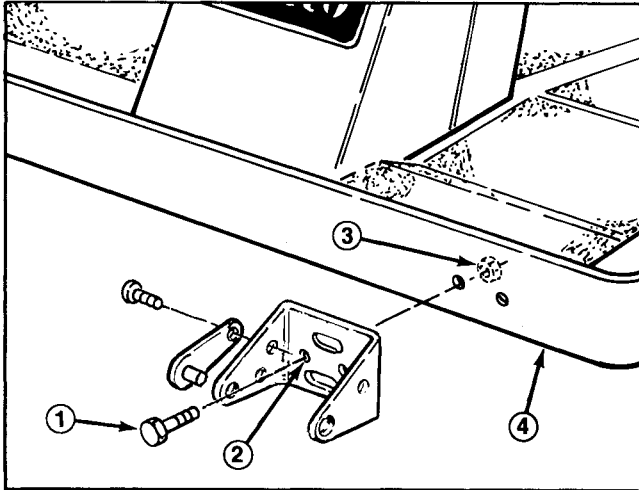

Figure 10
- B. Groundsmaster 217-D and 220 — Align the bracket with the frame mounting holes. Insert (2) 3/8 x 2-1/4" capscrews through the non-slotted bracket holes and frame mounting holes. Install locknuts and torque to 45-50 ft-lb (Fig. 10).